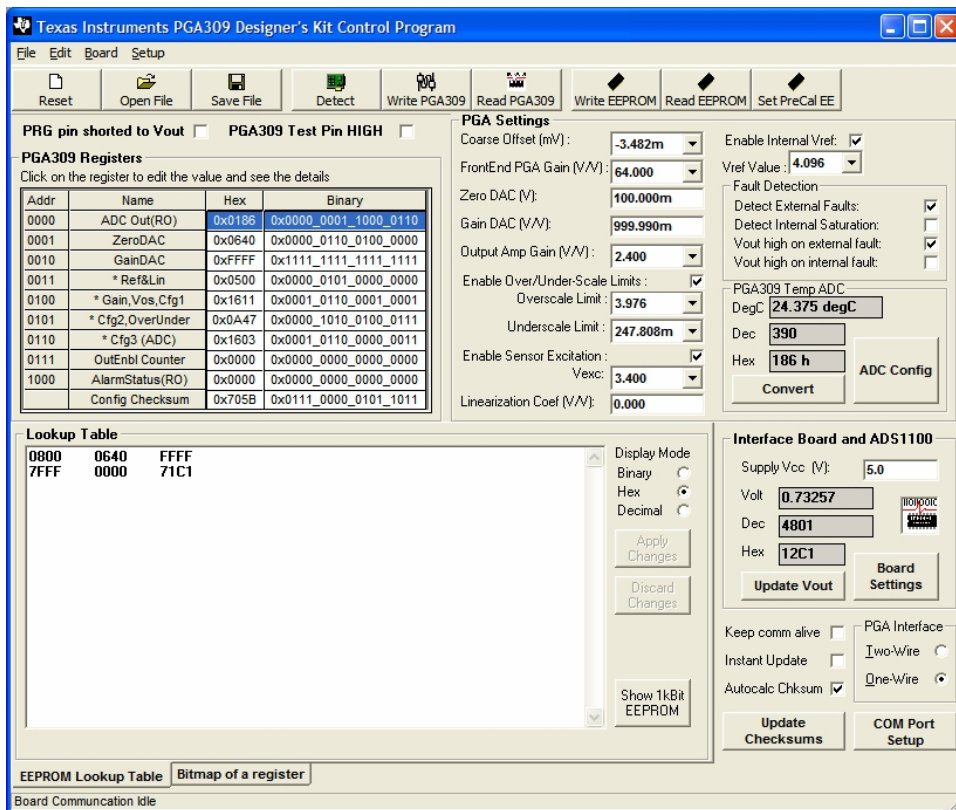

Figure 14: Main Window After Open File = "PGA309_DK_Test.txt"
The Main window will appear as in Figure 14.
- 3) Write these settings to the PGA309 Sensor Interface Board EEPROM by clicking on “Write EEPROM” in the Main Window. Click on “Read EEPROM” and then click on “Read PGA309”. The Main Window should look the same as in Figure 14.